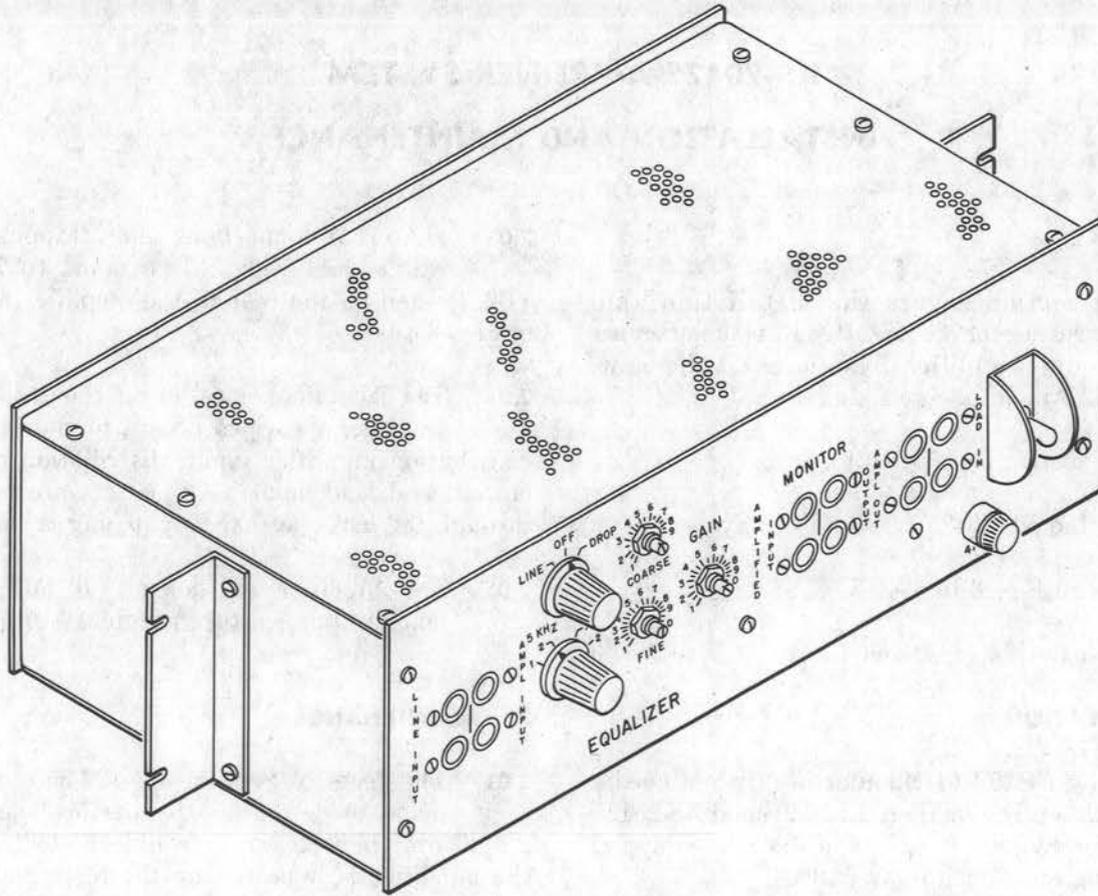
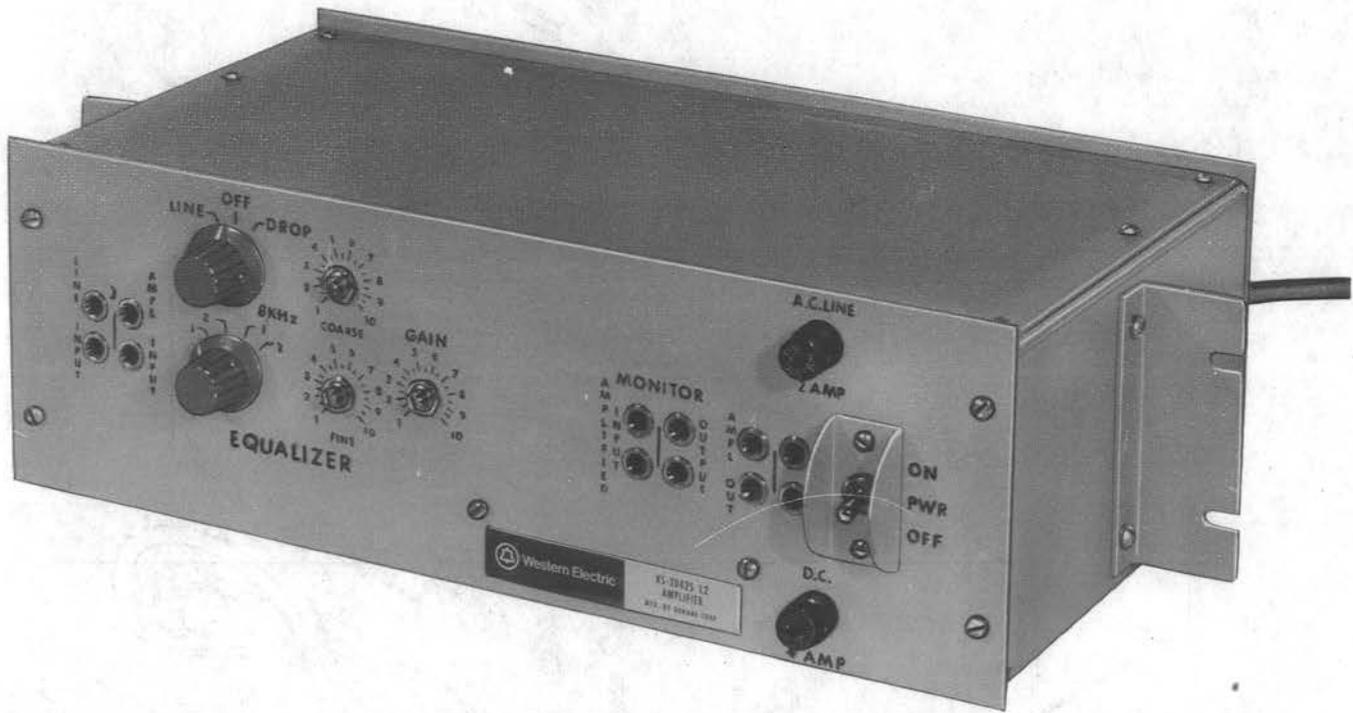

Fig. 1—KS-20425 L1 (Manufacture Discontinued) Amplifier System—Front View
Fig. 3—KS-20425 L2 Amplifier System—Front View
- Change Fig. 3 to 5
- Add new Fig. 3, 4, and 6.
2.01 The KS-20425 L1 (Manufacture Discontinued) Amplifier System (Fig. 1 and 2) and KS-20425 L2 Amplifier System (Fig. 3 and 4) are equipped for mounting on 19-inch relay racks.